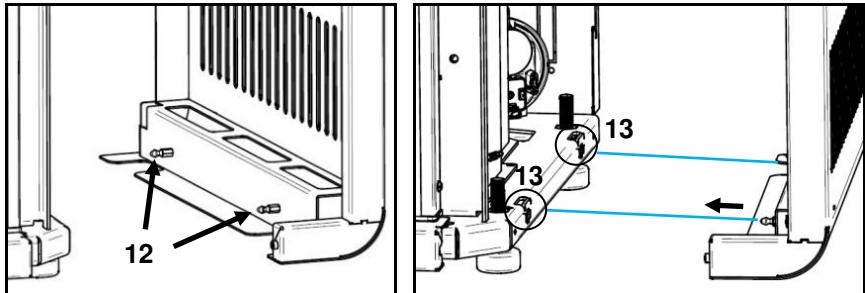

Figure 43 - Assembly of Olive covers
- k) Then place the side covers; first fitting the tabs **10** on the slots **11** and then fitting the bolts **12** of the casing on the springs **13**, as shown in Figure 43.